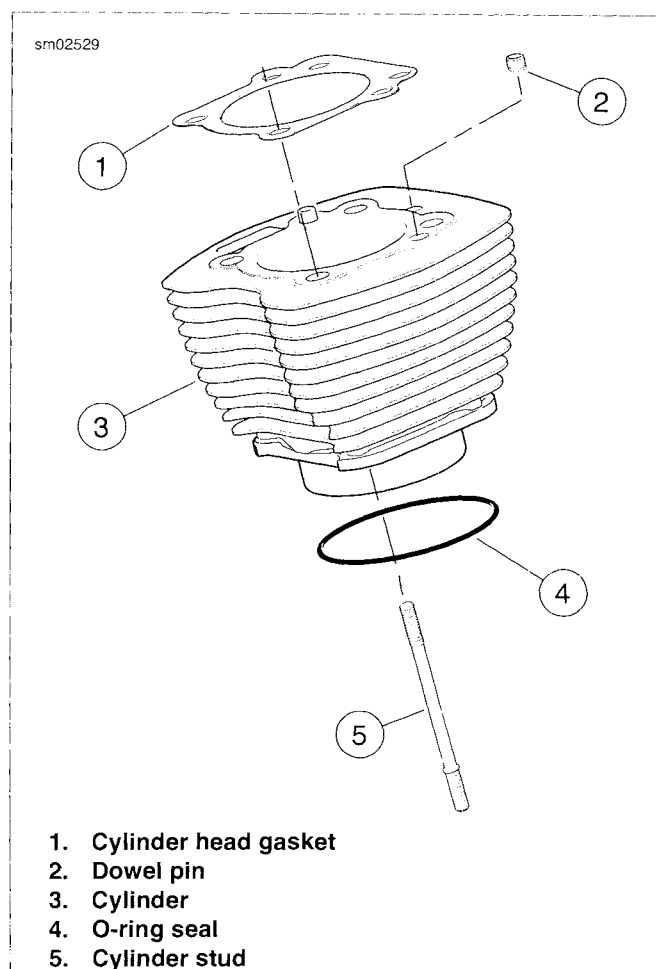

Figure 3-112. Cylinder Assembly
1. See Figure 3-112. Scrape any remaining cylinder head gasket material from the gasket surface at the top of the cylinder (3).